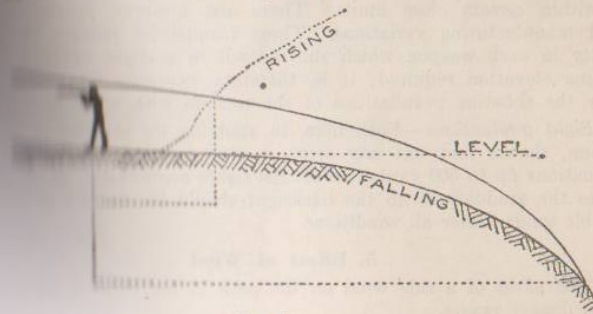

FIG. 7.
- (d) The nearer the slope of the ground conforms to the angle of descent of the bullet (Fig. 7).